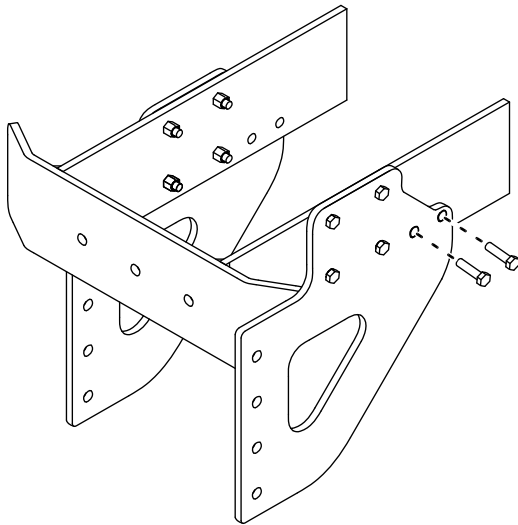

**Figure 2**
3. Install the side plates using 4 bolts and nuts, as shown in Figure 2.